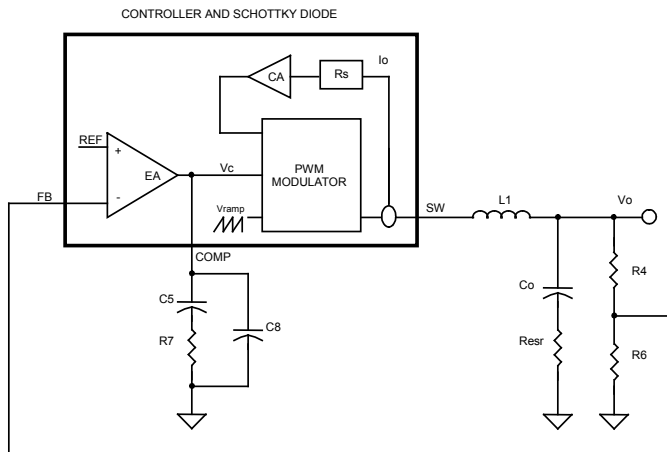

Figure 7. Block diagram of control loops
The block diagram in Figure 7 shows the control loops of a buck converter with the SC4524D. The inner loop (current loop) consists of a current sensing resistor ( $R_s=5.5m\Omega$ ) and a current amplifier (CA) with gain ( $G_{CA}=18.5$ ). The outer loop (voltage loop) consists of an error amplifier (EA), a PWM modulator, and a LC filter.
For a converter with switching frequency  $F_{SW}$ , output inductance  $L_1$ , output capacitance  $C_o$  and loading  $R$ , the control ( $V_c$ ) to output ( $V_o$ ) transfer function in Figure 7 is given by: